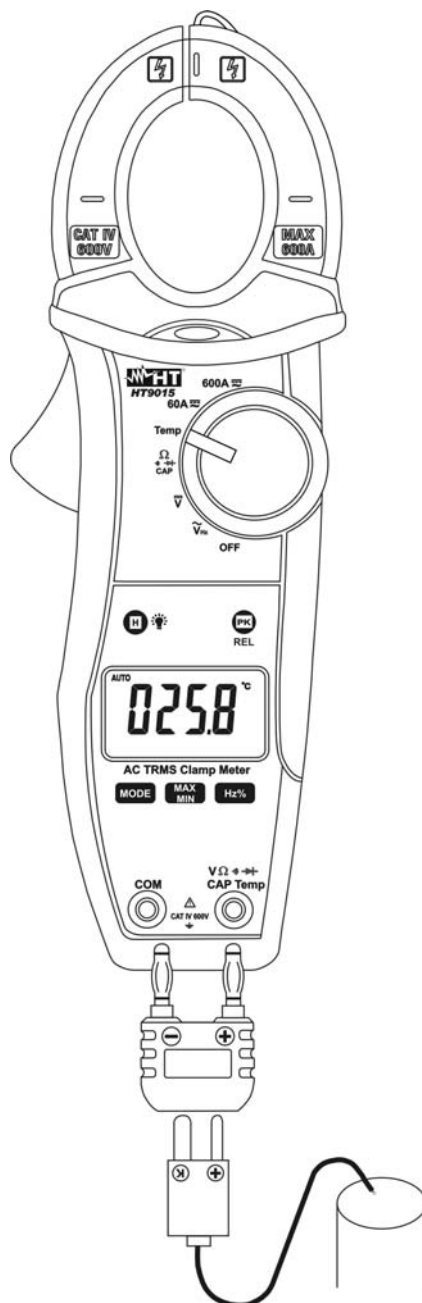

Fig. 8: Taking Temperature measurement
3. Insert the type K bead probe in **VΩ⋅)CAP Temp** and **COM** inputs terminals using the standard adapter and observing the correct polarity (see Fig. 8). The temperature value is shown at display